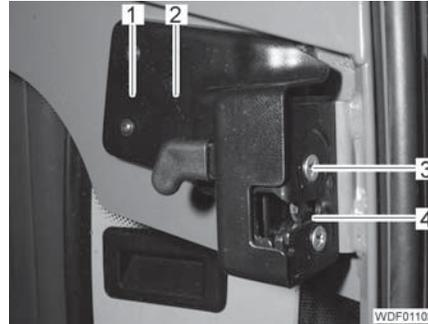

Fig. 383 Door lock
- Unscrew the 2 screws (Fig. 383,1).
- Remove the cover (Fig. 383,2).
- Unscrew the 2 screws (Fig. 383,3).
- Remove the lock (Fig. 383,4).
- Place on the lock (Fig. 383,4) into position.
- Screw in and tighten the 2 screws (Fig. 383,3).
- Place on the cover (Fig. 383,2).
- Screw in and tighten the 2 screws (Fig. 383,1).